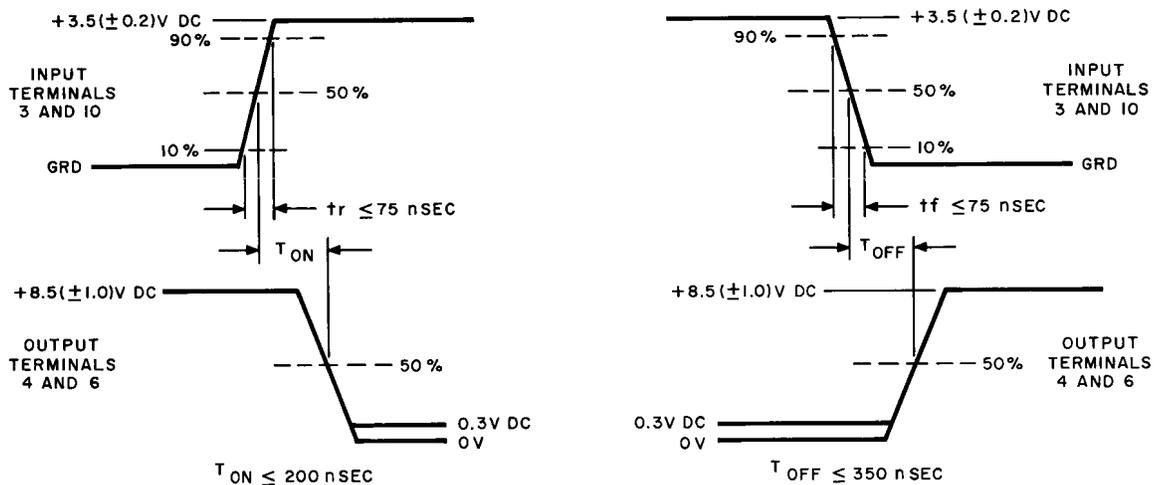

Fig. 37A — Transmitter Output Test
- (3) The input waveforms on terminals 3 and 10 and the output waveforms on terminals 4 and 6 shall be as specified in Fig. 37A.